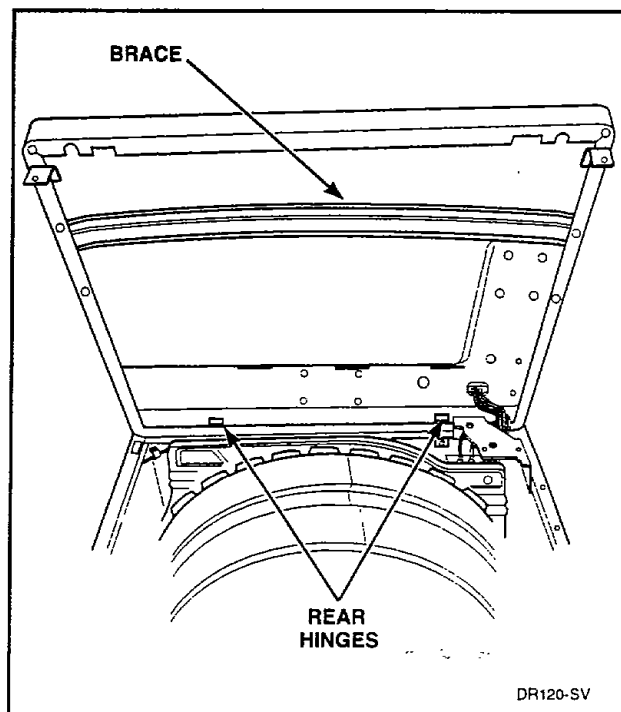

Figure 14
- n. Lift cabinet top to a vertical position by hinging it on the rear hinges, *Figure 14*.
- o. Carefully withdraw the wire harness through hole in cabinet top and lift the entire cabinet top assembly off the rear hinges, *Figure 14*.
- Lift cabinet top to a vertical position by hinging it on the rear hinges, *Figure 14*.
- Carefully withdraw wire harness through hole in cabinet top and lift the entire cabinet top assembly off the rear hinges, *Figure 14*.
- o. Carefully withdraw wire harness through hole in cabinet top and lift the top off the rear hinges with timer case attached, *Figure 14*.
- r. Remove brace from underside of cabinet top by swinging one end toward front or rear, *Figure 14*.
- o. Lift cabinet top to a vertical position by hinging it on the rear hinges, *Figure 14*.
- p. Carefully withdraw the wire harness through hole in cabinet top and lift the top off the rear hinges with meter case attached, *Figure 14*.